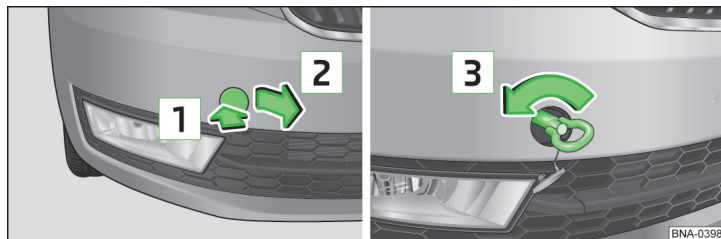

Fig. 95 Remove cap / install towing eye
- › To **remove**, press down on the cap in the direction of arrow [1] and remove it in the direction of arrow [2] » fig. 95.
- › To **install**, screw in the towing eye by hand in the direction of arrow [3] » fig. 95 until the stop » **!**.